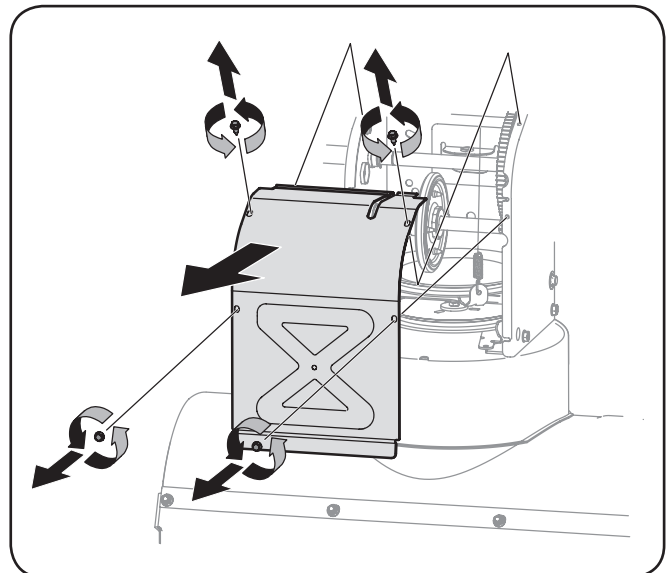

Fig. 7-4
6. Remove the frame cover from the underside of the snow thrower by removing the self-tapping screws which secure it. See Fig. 7-4.
3. Remove the frame cover from the underside of the snow thrower by removing the self-tapping screws which secure it. See Fig. 7-4.